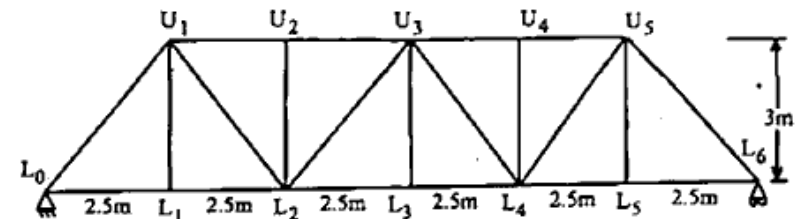

Figure 7 (आकृति 7)
8. Construct the influence line for a diagonal member U_5L_4 of a Warren truss with verticals shown in figure 7. 14